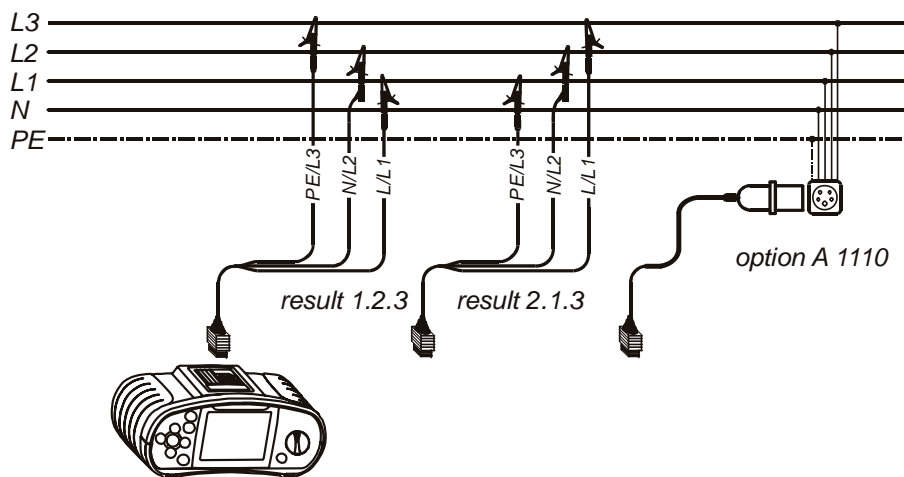

Figure 5.34: Connection of universal test cable and optional three phase cable
- Step 2** Connect test cable to the Eurotest instrument and follow the connection diagram shown in figure 5.34 to test phase sequence.